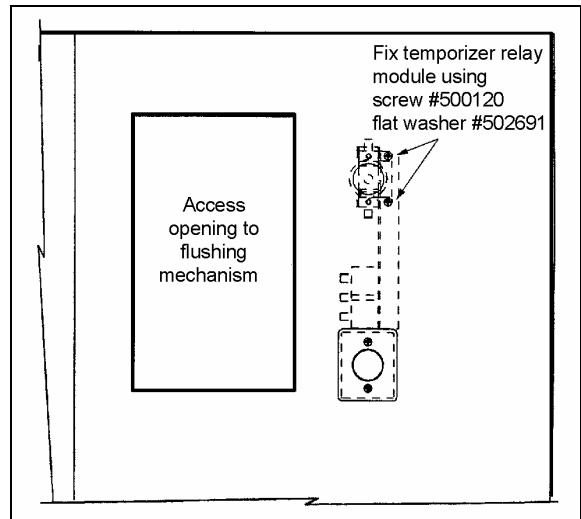

FIGURE 4 : TEMPORIZER RELAY INSTALLATION
3. Using #500120 screws and #502691 washers, install the new temporizer relay as shown on figure 4.